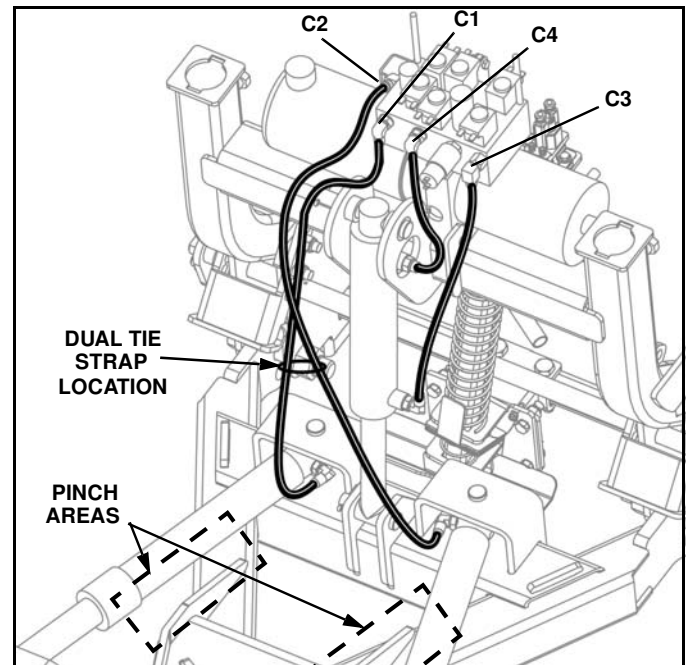

Figure 1-14
14. Connect hoses to the lift and swing cylinders. Check for pinching and binding. (See Figure 1-14).